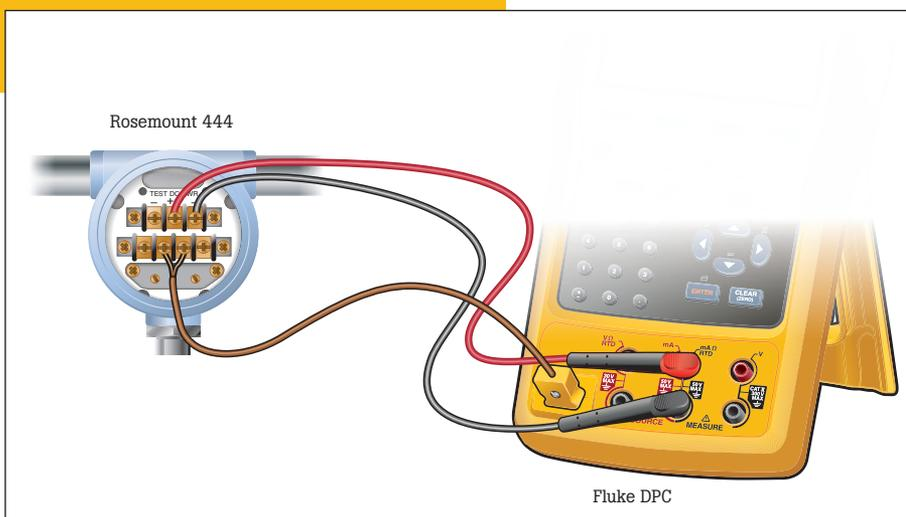

Figure 1.
1. Connect a type K mini-connector into the "TC" input of the DPC and connect to the thermocouple input of the transmitter (Figure 1). It is necessary that you use the correct type of mini-connector for this connection to the DPC.
2. Connect the center two terminals of the DPC to the connections on the transmitter where loop power is applied (Figure 1).